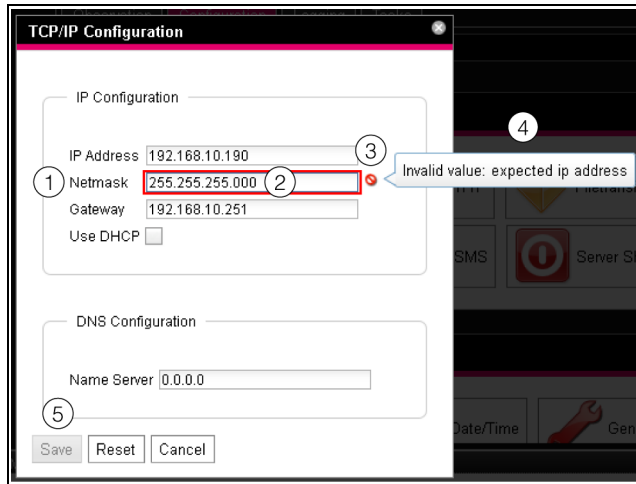

Fig. 31: Display of an incorrect input
- A red "prohibit symbol" (fig. 31, item 3) appears behind the faulty entry (fig. 31, item 2) in the field **Netmask** (fig. 31, item 1).
- When you place the mouse pointer over the prohibit symbol, a notice with additional information about the error appears (fig. 31, item 4).
- The **Save** button is deactivated (fig. 31, item 5) so that the currently stored values cannot be saved.